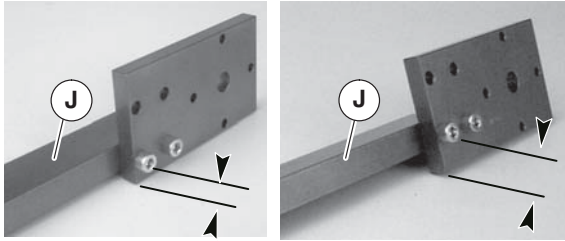

Figure 13
3. Check gearmotor support assembly (Figure 13, item J) setup: 2100 (left) and 4100 or 6200 (right).